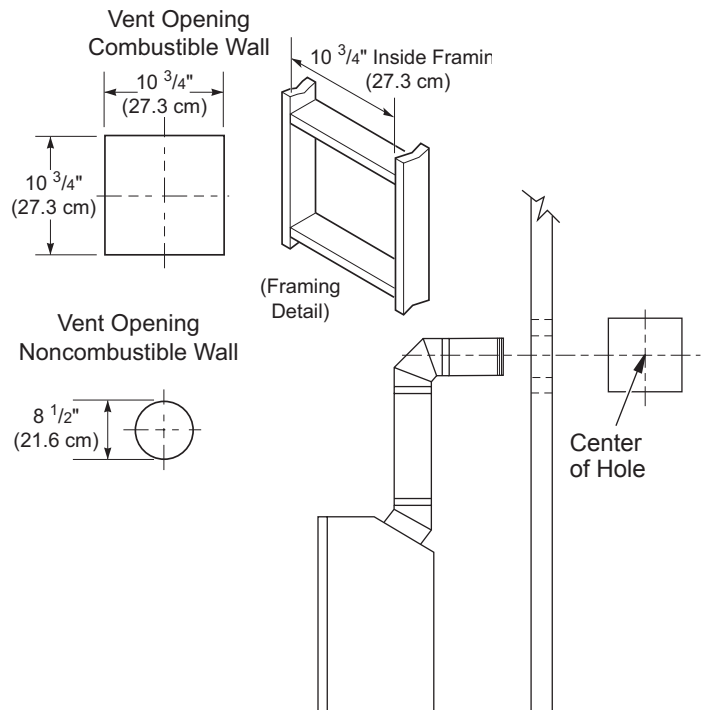

Figure 9 - Vent Opening Requirements
- Carefully determine the location where the vent pipe assembly will penetrate the outside wall. The center of the hole should line up with the center-line of the horizontal vent pipe. Mark the wall for a 10 3/4" x 10 3/4" square hole. Cut and frame the square hole in the exterior wall where the vent will be terminated. If the wall being penetrated is constructed of noncombustible material, such as masonry block or concrete, a 8 1/2" hole with zero clearance is acceptable (see Figure 9).
1. Cut a 103/4" square hole in the ceiling using the locating hole as a center point. The opening should be framed to 103/4" x 103/4" (27.3 cm x 27.3 cm) inside dimensions, as shown in Figure 9 on page 8 using framing lumber the same size as the ceiling joists. If the area above the ceiling is an insulated ceiling or an attic space, nail firestop from the top side. This prevents loose insulation from falling into the required clearance space. If the area above the ceiling is a living space, install firestop below the framed hole. The firestop should be installed with no less than three nails per side (see Figure 20).
3. Cut a hole in the roof using the locating hole as a center point. (Cover any exposed open vent pipes before cutting hole in roof.) The 103/4" x 103/4" hole must be measured on the horizontal; actual length may be larger depending on the pitch of the roof. There must be a 1" clearance from the vent pipe to combustible materials. Frame the opening as shown in Figure 9, page 8.